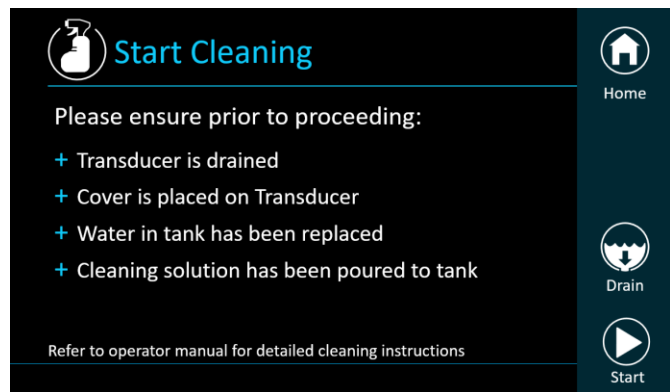
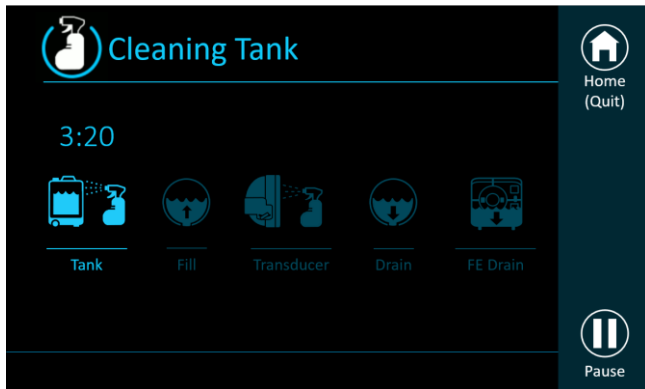

Figure 12-8: 'Clean' Menu
Figure 12-9: 'Cleaning Tank'
The system will switch to Clean Mode (**Figure 12-8**)
Step 13: Press 'Start' button to start the cleaning operation (**Figure 12-8**). A countdown timer will appear, displaying the remaining Tank cleaning time (**Figure 12-9**)